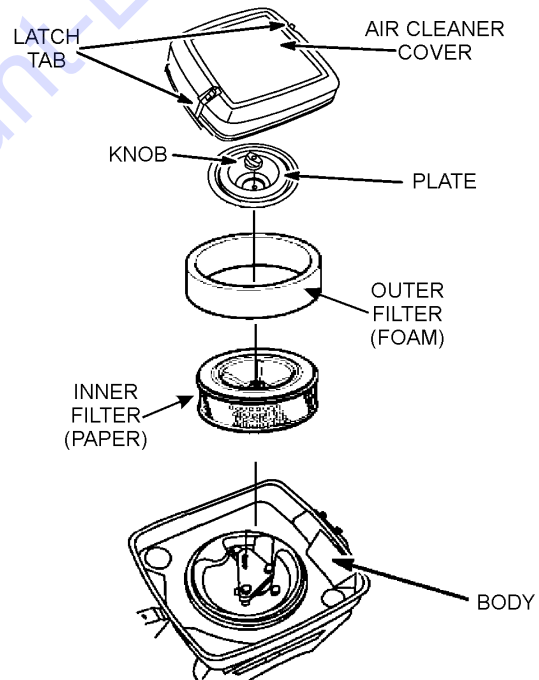

Figure 27. Air Filter Components
1. Release the latch tabs (Figure 27) on each side of the air cleaner cover, and remove cover.